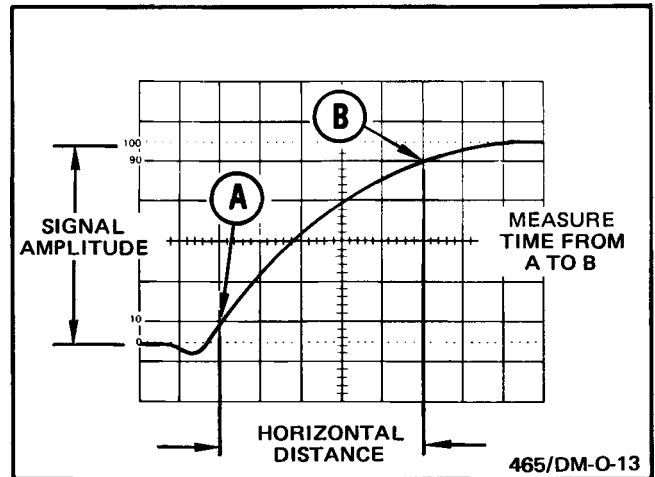

Fig. 2-11. Risetime.
2. Adjust the vertical POSITION control so that the display bottom just touches the 0% graticule line and the display top just touches the 100% graticule line (see Fig. 2-11).
3. Measure the horizontal distance (divisions) between the 10% and 90% points on the waveform (point A to point B, Fig. 2-11).